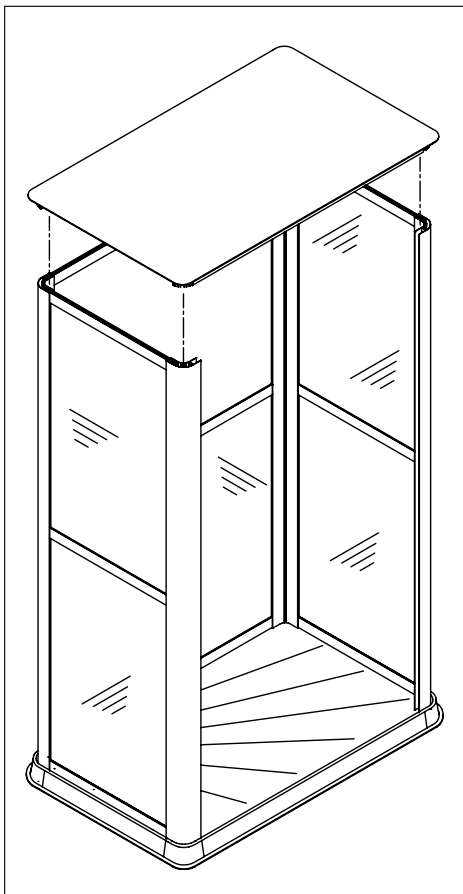

Fig 4.8
9. Fig 4.8. Prior to fitting the roof panel, ensure that the cubicle is square and upright.